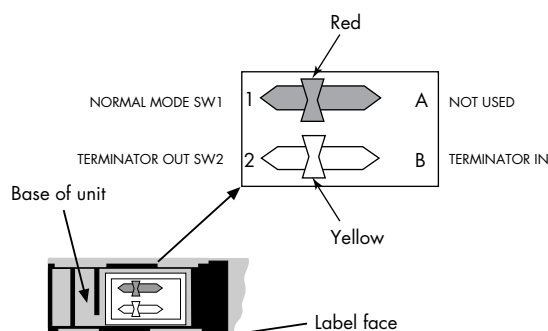

Figure 6.73: Functions of switches on the base of an MTL5995
To comply with fieldbus standards, each bus must be terminated at both ends. MTL's FBT1 fieldbus terminators (see section 6.33) can be supplied for this purpose or, for installations in which the safe-area bus length is small, the MTL5995 includes an internal safe-area terminator which is enabled by a yellow switch (B) located on the base of the unit (see figure 6.73). A second, red switch (A) in the base of the unit should be kept in the normal mode position.